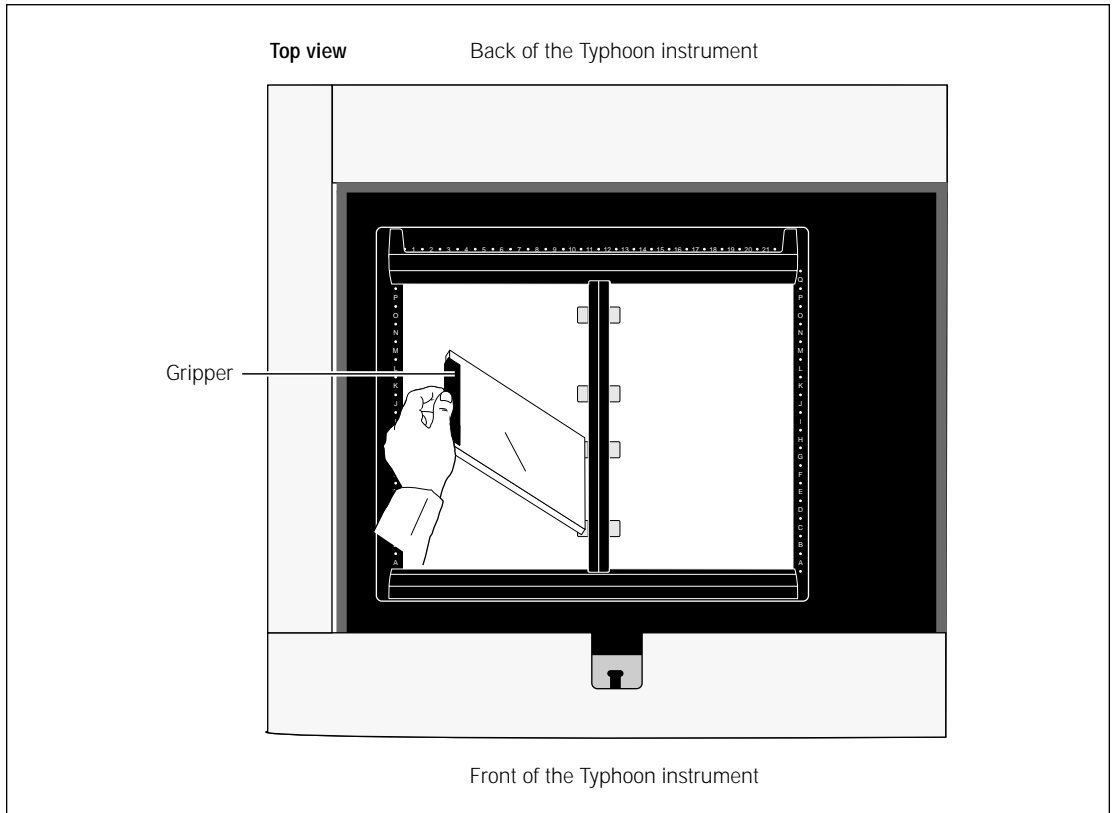

Figure 8-9. Placing a sandwich gel with attached gripper on the SE600 gel alignment guide.
7. Holding the sandwich gel by the gripper and one edge, place the edge of the sandwich gel without the gripper on the edge of the center gel alignment guide (figure 8-9). Make sure the sandwich gel rests on the two spacers.